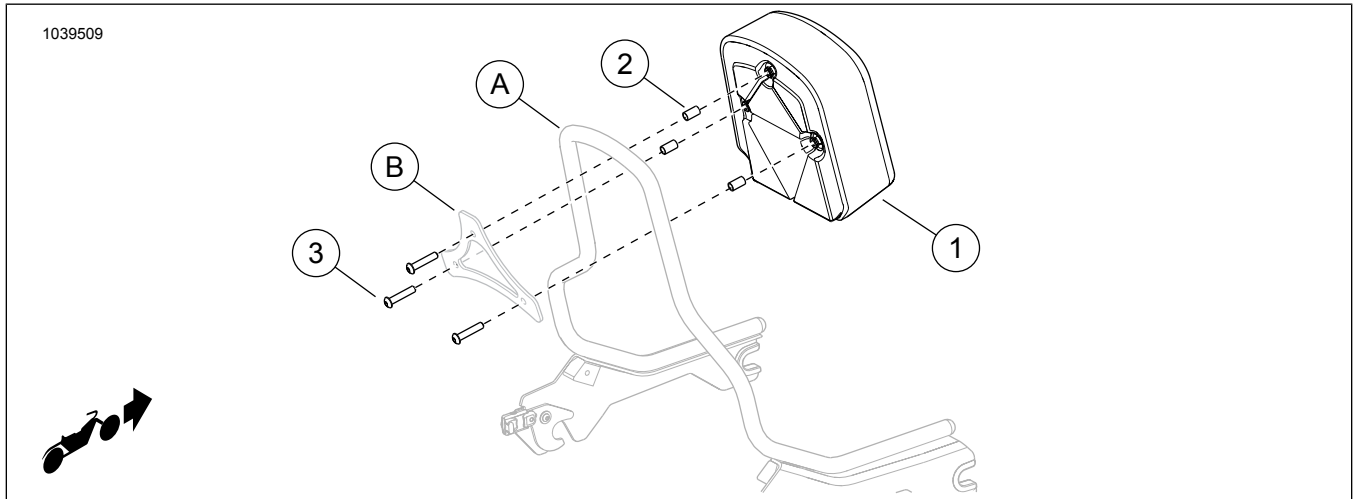

Figure 1. Kit Contents: Standard Sized Backrest Pad (Softail)
1. Figure 1 If necessary, cut plastic rain seal away from two pre-cut holes in backrest (2) to prevent plastic from catching in the threads.
2. Place mounting bracket (B) against spacers (2), so that holes of mounting bracket align with spacers.
3. Insert one screw (3) from kit through one hole in bracket (B) and spacer (2).